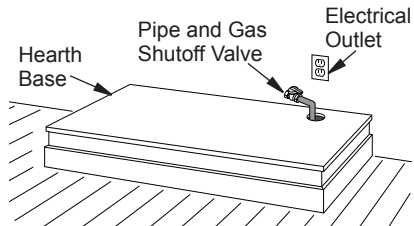

Figure 11 - Placing Hearth Base Against Wall
Built-in installation of this fireplace involves installing fireplace into a framed-in enclosure. This makes the front of fireplace flush with wall. An optional brass trim kit accessory is available (see *Accessories*, page 38). Brass trim will extend past sides of fireplace approximately 1/2". This will cover the rough edges of the wall opening. If installing a built-in mantel above the fireplace, you must follow the clearances shown in Figure 11, page 12. Follow the instructions below to install the fireplace in this manner.
2. If blower is installed, install a properly grounded, 120 volt three-prong electrical outlet at fireplace location if an outlet is not there. If possible, locate outlet so cabinet mantel will cover it when installed (see Figure 11).
3. Place hearth base against wall at installation location. Cut an access hole in hearth base to run gas line to fireplace (see Figure 11). Make sure to locate access hole so cabinet mantel will cover it when installed. *Note:* You can secure base to floor using wood screws. Countersink screw heads and putty over.